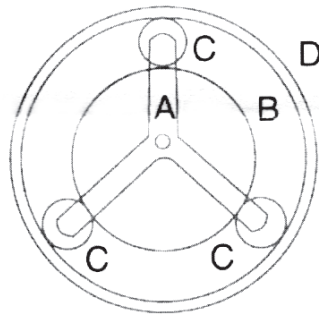

Fig. 1
- Q3) a)** In an epicyclic gear of the 'Sun & Planet' type shown in fig. 1 the PCD of the internally toothed ring is to be 224mm & module 4mm. When the ring D is stationary, the spider A which carries the three planet wheels C of equal size, is to make one revolution in the same sense as the sun wheel B for every five revolutions of the driving spindle carrying the sun wheel B. Determine suitable numbers of teeth for all wheels. [8]